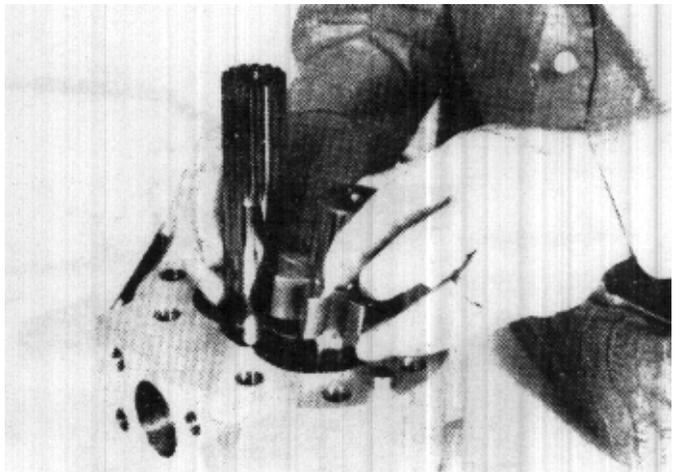

FIGURE 50
- Remove both gears (7 and 5) by lifting them straight up out of the body. (Figure 50).